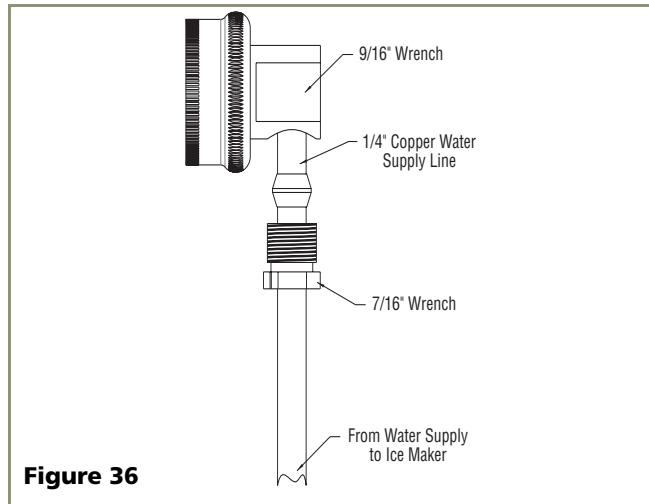

Figure 36
2. Locate the U-Line supplied garden hose fitting. Ensure the end of the copper tubing has been cut straight and free of burrs. Slide the compression nut and ferrule onto the copper tubing as shown (see **Figure 36**). Push the assembly completely into the garden hose fitting and tighten using the two wrenches. Wait to connect this assembly to the appliance until the drain connection is ready.